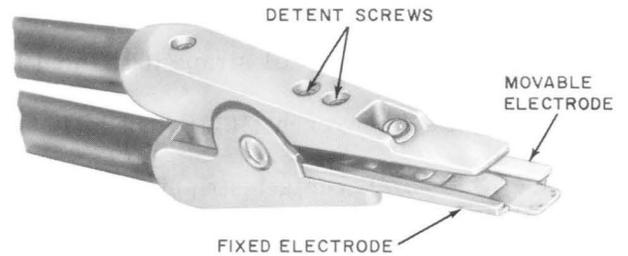

Fig. 3—577A and 577B Welding Pliers
2.04 These welding pliers shown in Fig. 3 are similar, except the leads of the 577A pliers are permanently attached to the 102A current-supply set of the 1004A tool kit while the leads of the 577B pliers can be disconnected from the 102B current-supply set of the 1004B tool kit. The welding pliers are arranged to hold one fixed and one movable electrode. Different combinations of fixed and movable electrodes are required for welding contacts on various apparatus as covered in Part 5 of this section. The welding pliers are furnished with one No. 20 movable electrode and one No. 11 fixed electrode.